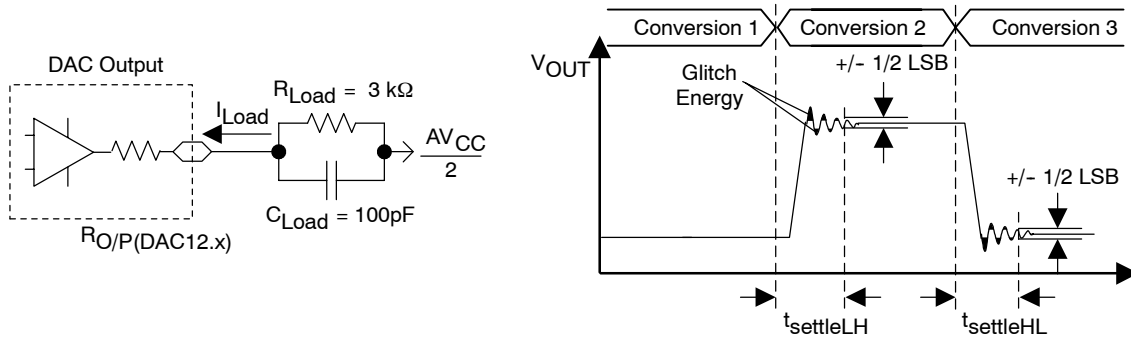
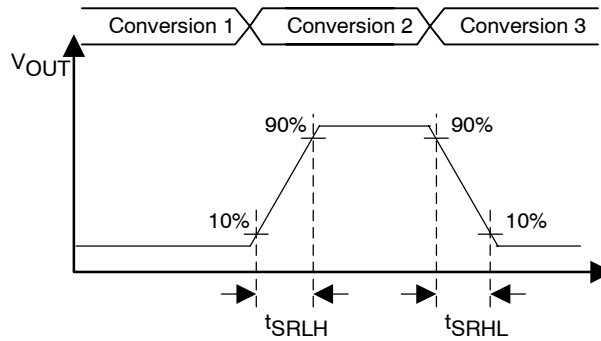

Figure 24. Settling Time and Glitch Energy Testing
Figure 25. Slew Rate Testing
## 12-bit DAC, dynamic specifications (VREF, DAC12 = AVCC, DAC12IR = 1) (see Figure 24 and Figure 25)
- NOTES: 1. RLoad and CLoad connected to AVSS (not AVCC/2) in Figure 24.